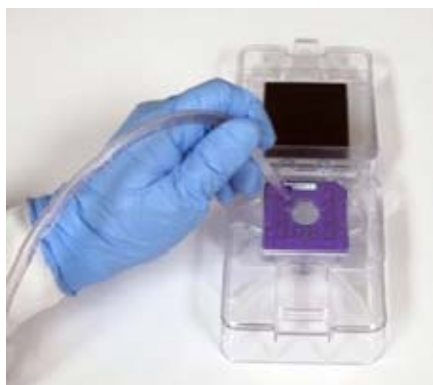

Figure 2. Using a vacuum to aspirate the chip wells is more effective than using a pipette. See page 35 for more details.
- 2 Use a pipette tip attached to a vacuum line to thoroughly aspirate all fluid from the chip wells (see Figure 2). For more details on how to set up a vacuum line see page 35.